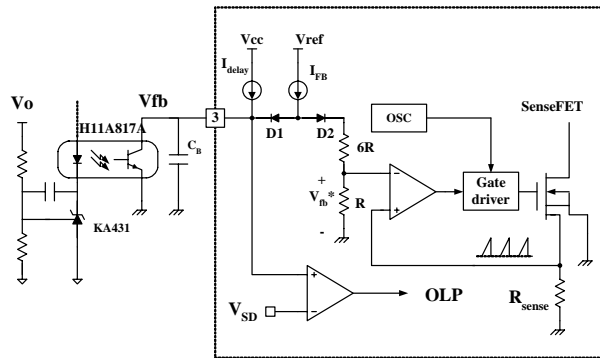

Figure 5. Pulse-Width Modulation (PWM) Circuit
2. Feedback Control: FPS employs current mode control, as shown in Figure 5. An opto-coupler (such as the H11A817A) and shunt regulator (such as the KA431) are typically used to implement the feedback network. Comparing the feedback voltage with the voltage across the R_{sense} resistor makes it possible to control the switching duty cycle. When the reference pin voltage of the shunt regulator exceeds the internal reference voltage of 2.5V, the opto-coupler LED current increases, pulling down the feedback voltage and reducing the duty cycle. This event typically occurs when the input voltage is increased or the output load is decreased.
2.1 Pulse-by-Pulse Current Limit: Because current mode control is employed, the peak current through the SenseFET is limited by the inverting input of PWM comparator (V_{fb}^*), as shown in Figure 5. Assuming that the 225 μ A current source flows only through the internal resistor ($6R + R = 11\text{ k}\Omega$), the cathode voltage of diode D2 is about 2.5V. Since D1 is blocked when the feedback voltage (V_{fb}) exceeds 2.5V, the maximum voltage of the cathode of D2 is clamped at this voltage, thus clamping V_{fb}^* . Therefore, the peak value of the current through the SenseFET is limited.